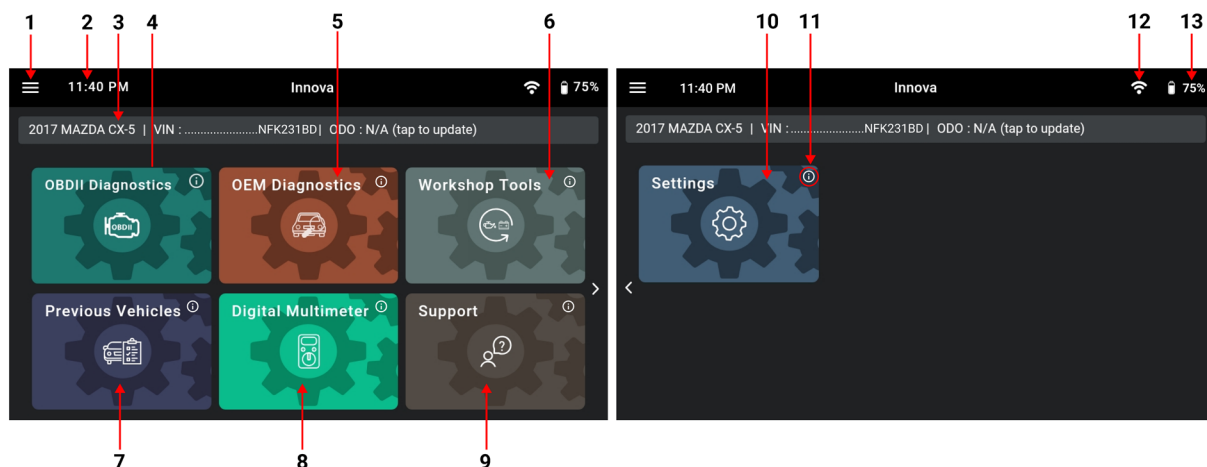

Figure 2: The Home Screen
The Home screen provides access to all the tablet's primary functions. See **Figure 2** for the explanation of items 1 through 13, below.